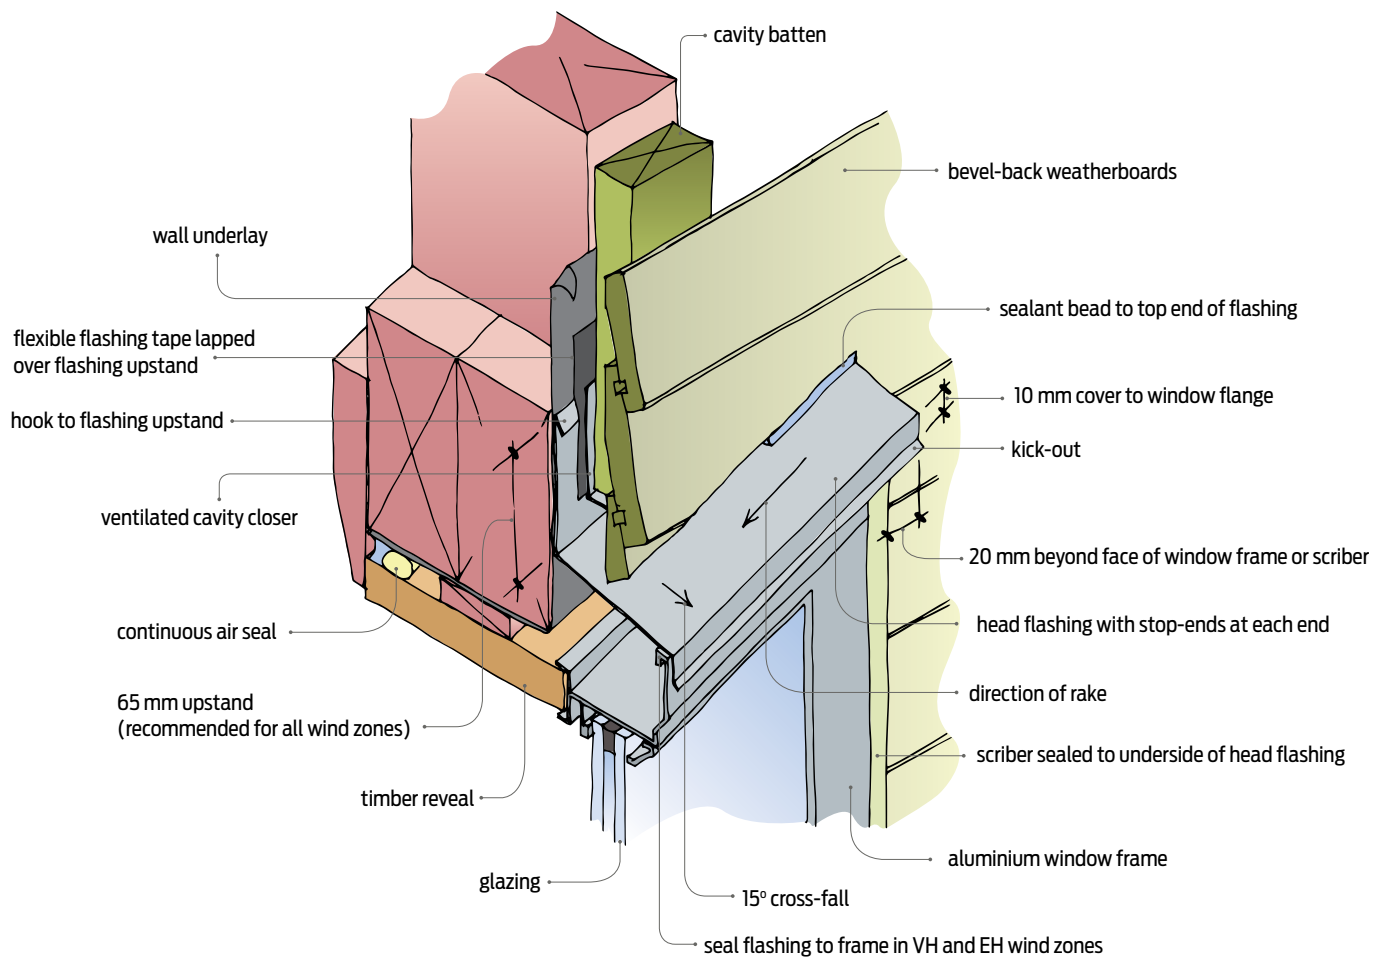

Figure 44 Raked flashed window head – preferred option.
- extend at least 20 mm beyond the face of the window frame or the scribe or rustic plug where horizontal weatherboards are installed (see Figure 44)
The key elements to the detailing of a raked aluminium head (Figure 44) that overlaps the cladding are: